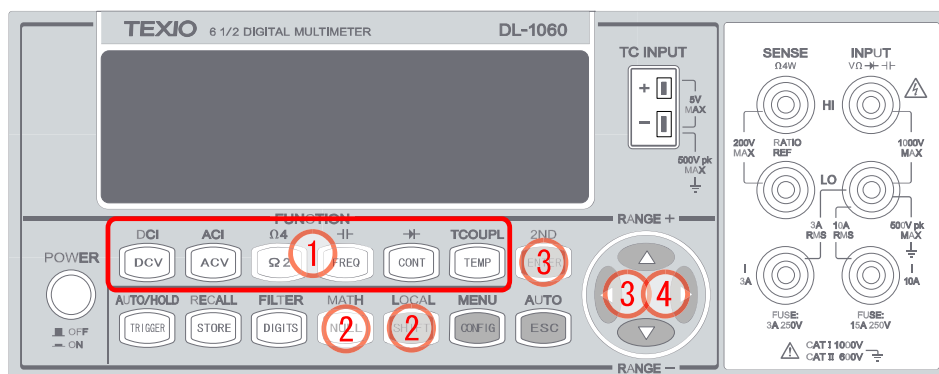

Figure 3-23
1. Press one of the measurement function buttons to select a measurement function as shown in **Figure 3-23**.